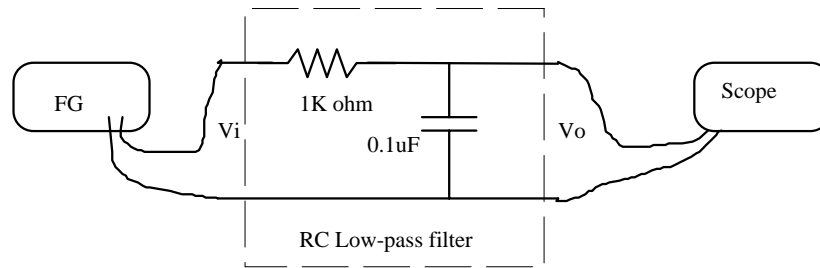

Figure 1 RC low-pass filter. The resistor and capacitor together function as a frequency-dependent voltage divider.
Consider the circuit shown in Figure 1. The impedance of a capacitor is $1/(j\omega C)$, a complex quantity, where j is the square root of -1 , ω is frequency in rad/sec (2π rad/sec = 1Hz), and C is capacitance in Farads. Equation 1 is derived using the voltage divider relationship. Equation 2 solves equation 1 for the ratio of V_o to V_i , which is called the ‘transfer function’ of the filter.
1. Construct the single-stage RC Low-pass filter circuit shown in Figure 1.